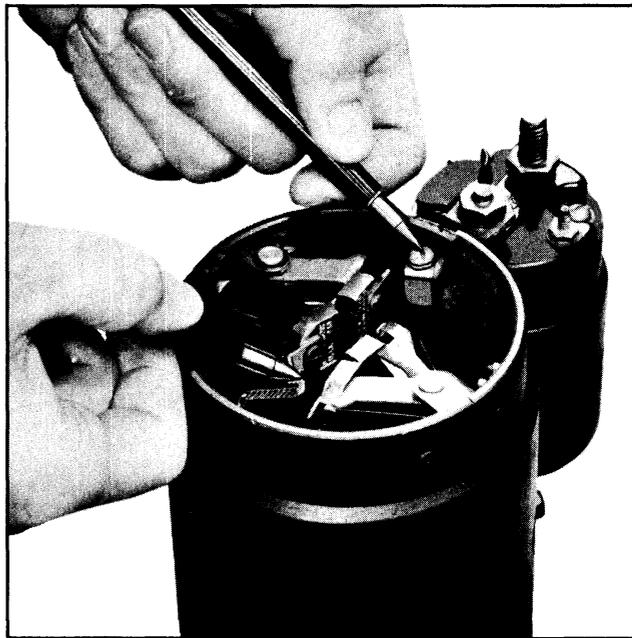

Fig. 13-29 Checking Field Coil for Ground
- d. Using a 110-volt test lamp, place one lead on the connector bar and the other on the field frame. (See Fig. 13-29) Disconnect the shunt coil ground before this check is made. If the lamp lights, the field coils are grounded and the defective coils will require repair or replacement.